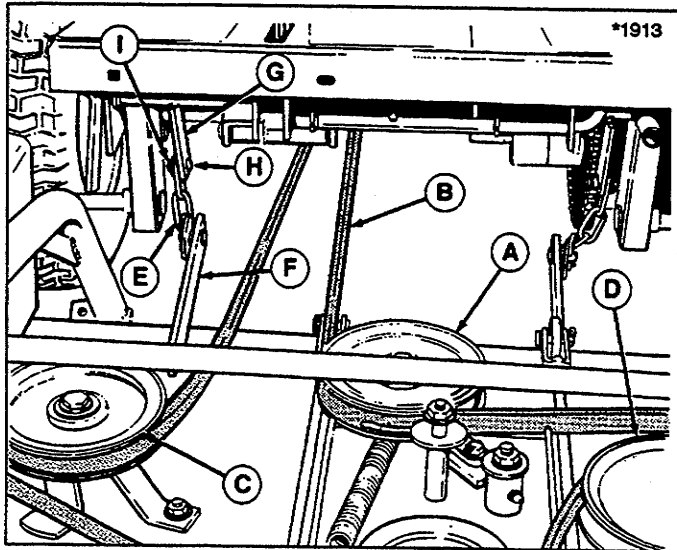

Figure 39. Removing Belt Tension
3. Remove belt from idler by pulling spring loaded idler pulley to gain slack in belt. See figure 39.
To avoid personal injury, use caution when moving spring-loaded pulley (A, figure 39). Spring tension is strong. Do not remove belt (B) from spring-loaded idler pulley (A). Remove belt from left and right idler pulleys (C & D).
11. Pull spring-loaded idler pulley back to gain slack, and install belt on idler pulley. See figure 39.